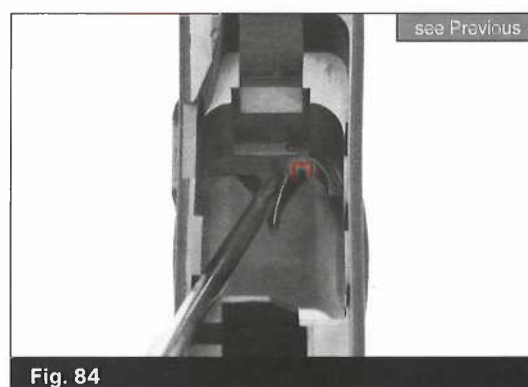
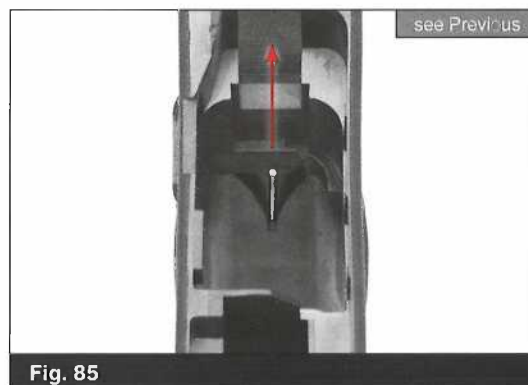

Fig. 84
Fig. 85
- After releasing the spring tension by unhooking the magazine catch spring from the magazine catch body (Fig. 84), use pliers to pull the magazine catch spring upwards and out of the receiver. This may make removing the magazine catch body easier. (Fig. 85)